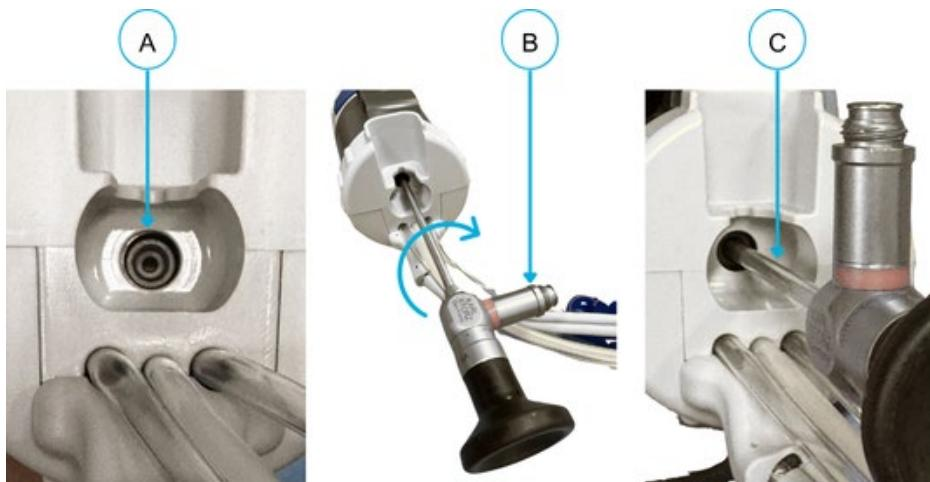

Figure 11-14: Insert the Rigid Cystoscope Lens
3. Insert the lens (**C**) into the lens port (**A**) (**Figure 11-14**).